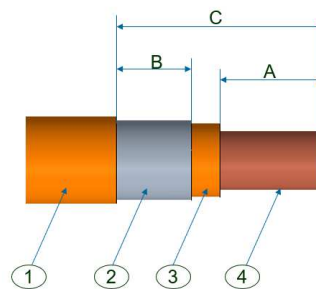

Figure 3: cutting cable to length
Step 2/步骤二 Strip and remove outer sheath, screening braid (if present screening foil), inner sheath and conductor from the end as shown in figure 3.
如图3所示, 切开并去除外绝缘皮, 屏蔽编织物 (如果存在屏蔽箔), 内绝缘皮和导体。